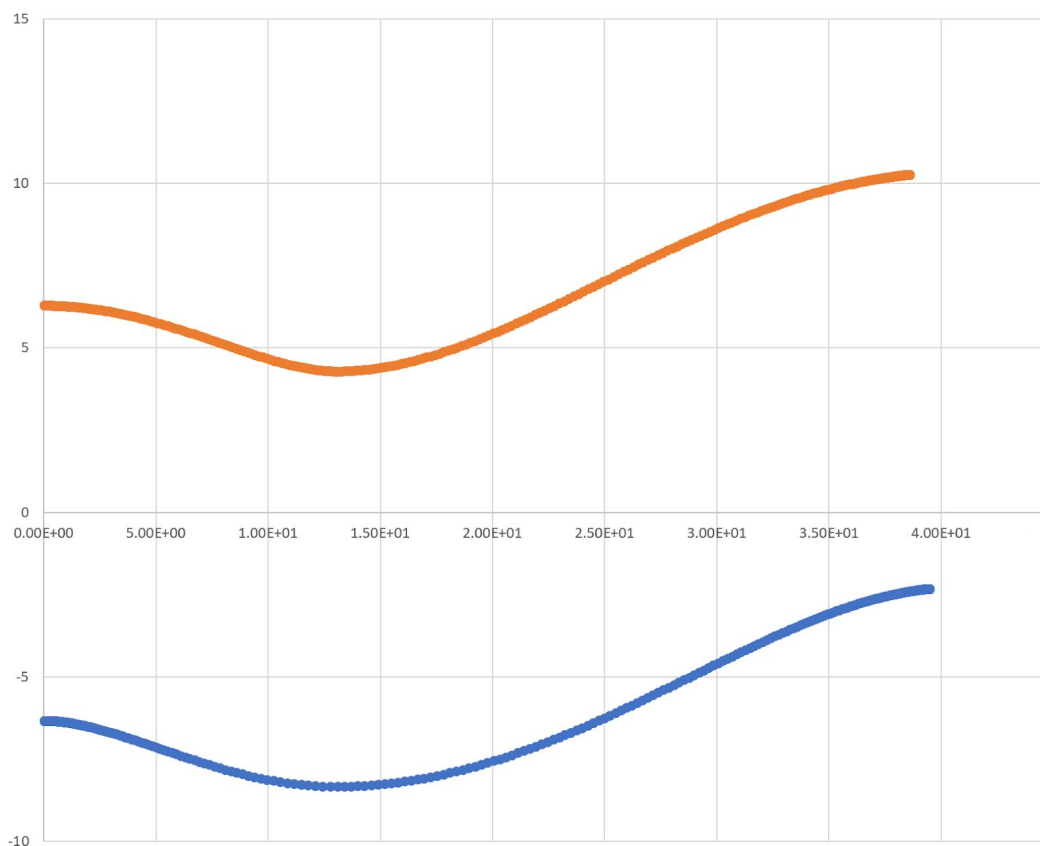
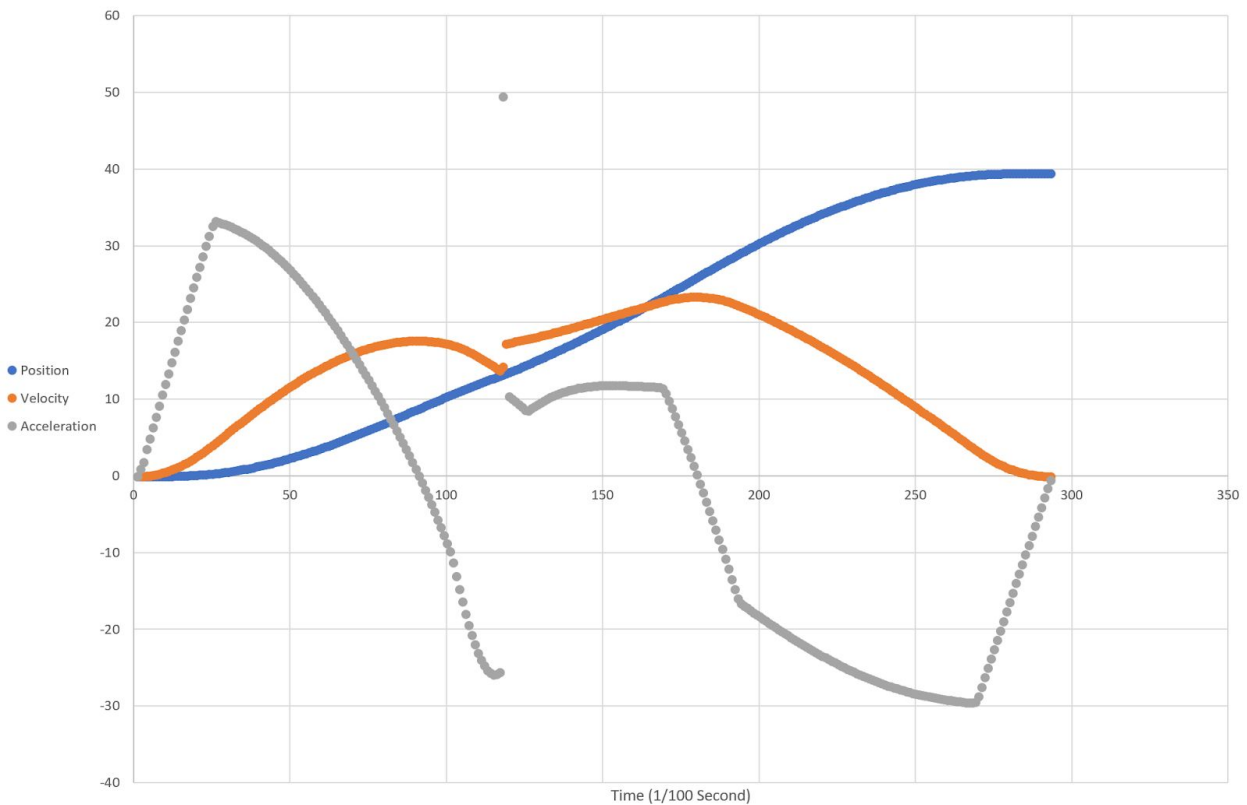

Figure 1-2
Figure 1-3
- Generate a Cubic Hermite spline for the robot to follow (See *Figure 1-2*), based on user defined points (x, y,  $\theta$  theta). This spline is then converted into data that the robot can follow. We use a Sinusoidal Curve for all splines. We can also generate Trapezoidal Curve for simpler movements. See *Figure 1-3* the trajectory for the **blue** line (Right Wheel Trajectory). Use cases highlighted in **orange**.